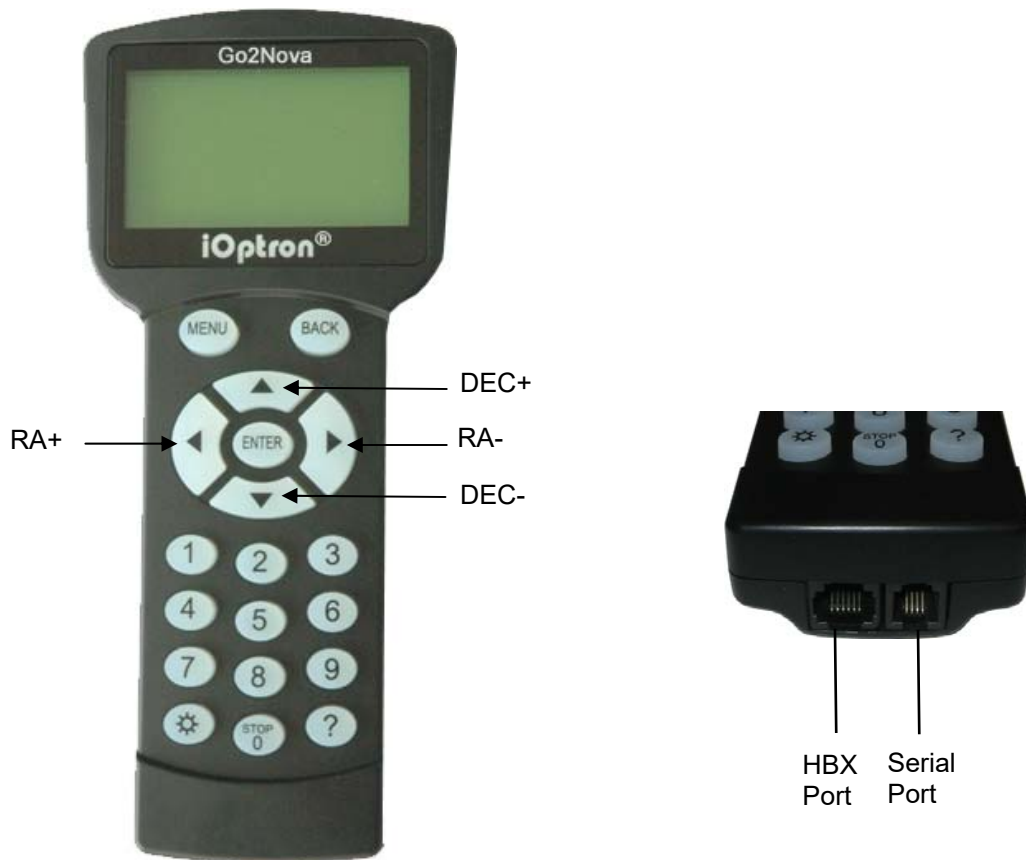

Figure 4. Go2Nova® 8407+ hand controller
The Go2Nova® 8407+ hand controller (HC) shown in Figure 4 is the standard controllers that used for the iEQ45 Pro mount. It has an integrated temperature controller that ensures it can be operated as low as -20°C (-4°F). It has a large LCD screen, function, direction and number keys on the front; a red LED reading light on the back; and a HBX port (6-pin) and a serial port (4-pin) at the bottom.